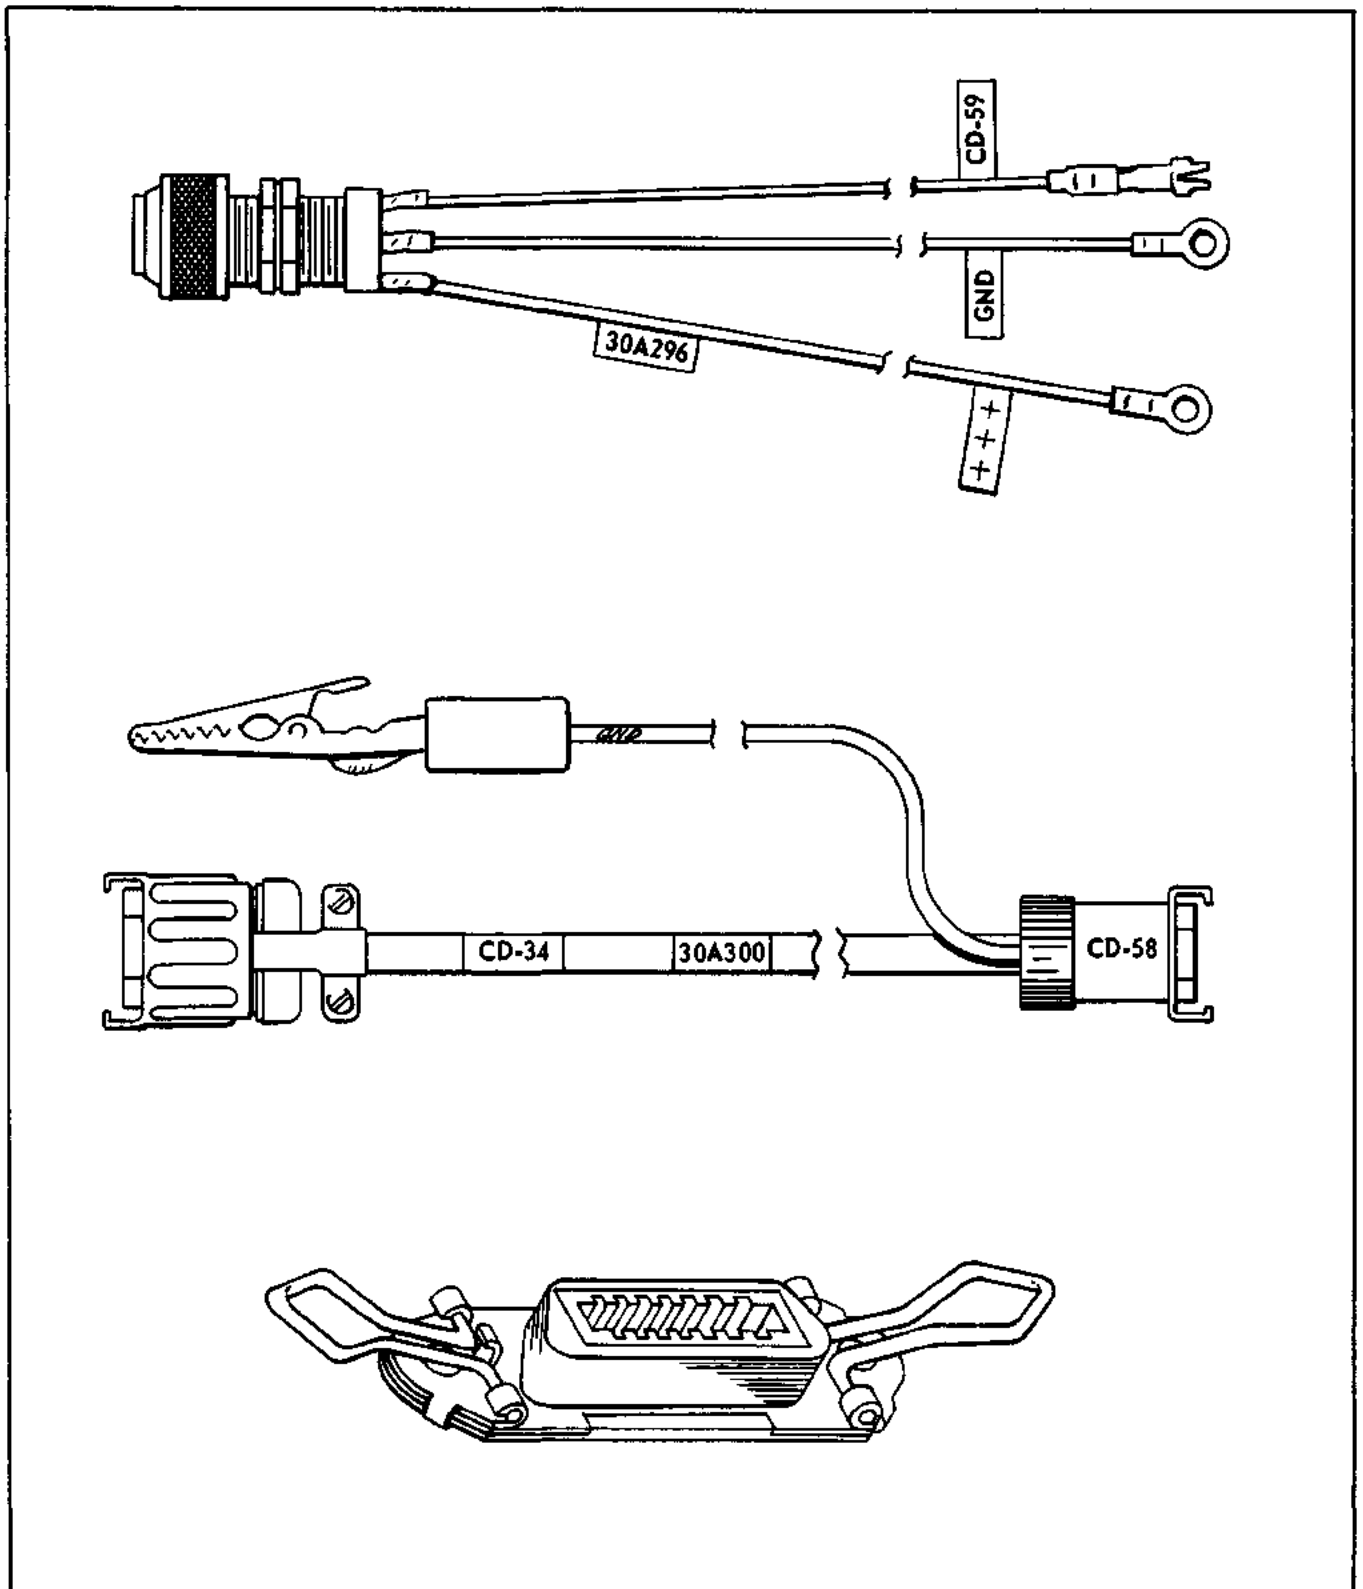

Figure 10-1. Glide Slope Coupler Test Cables and Jumper Plug
**10-3. GLIDE SLOPE CABLES.** Given in this paragraph are the additional items which are used for testing the Glide Slope Coupler. (Refer to Figure 10-1.)
- c. Glide Slope Coupler Cable, Mitchell P/N 30C291 (Piper P/N 752 010). This is the same cable used for installation in the airplane and is not shown in Figure 10-1.